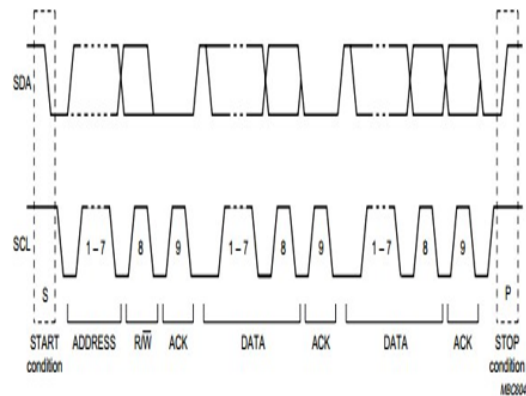

Figure 9: Address is sent after START condition
After the START condition (S), a slave address is sent (see Figure 9). This address is 7 bits long followed by an eighth bit which is a data direction bit (R/W), the bit of (R/W) is "Zero" which indicates a transmission (WRITE), if it's "One" which indicates the master will read data from the slave. The 7bit address determines which slave will be selected by master. When an